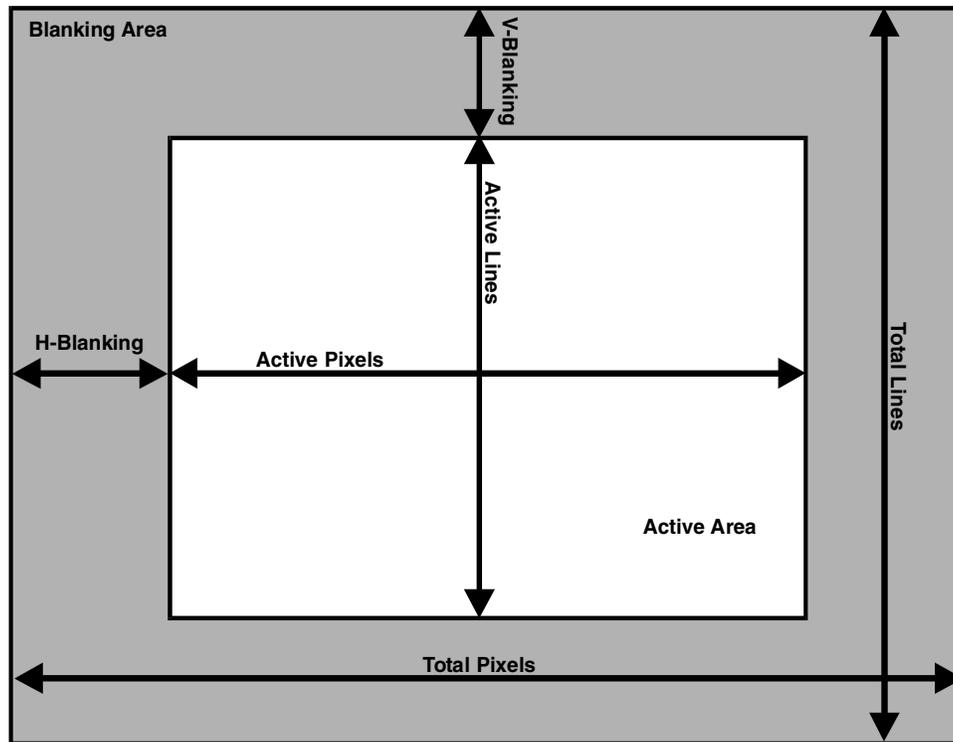

Figure 4. — Input settings
4. Set input total pixels to minimize faint vertical lines (see Figure 4 on page 25).